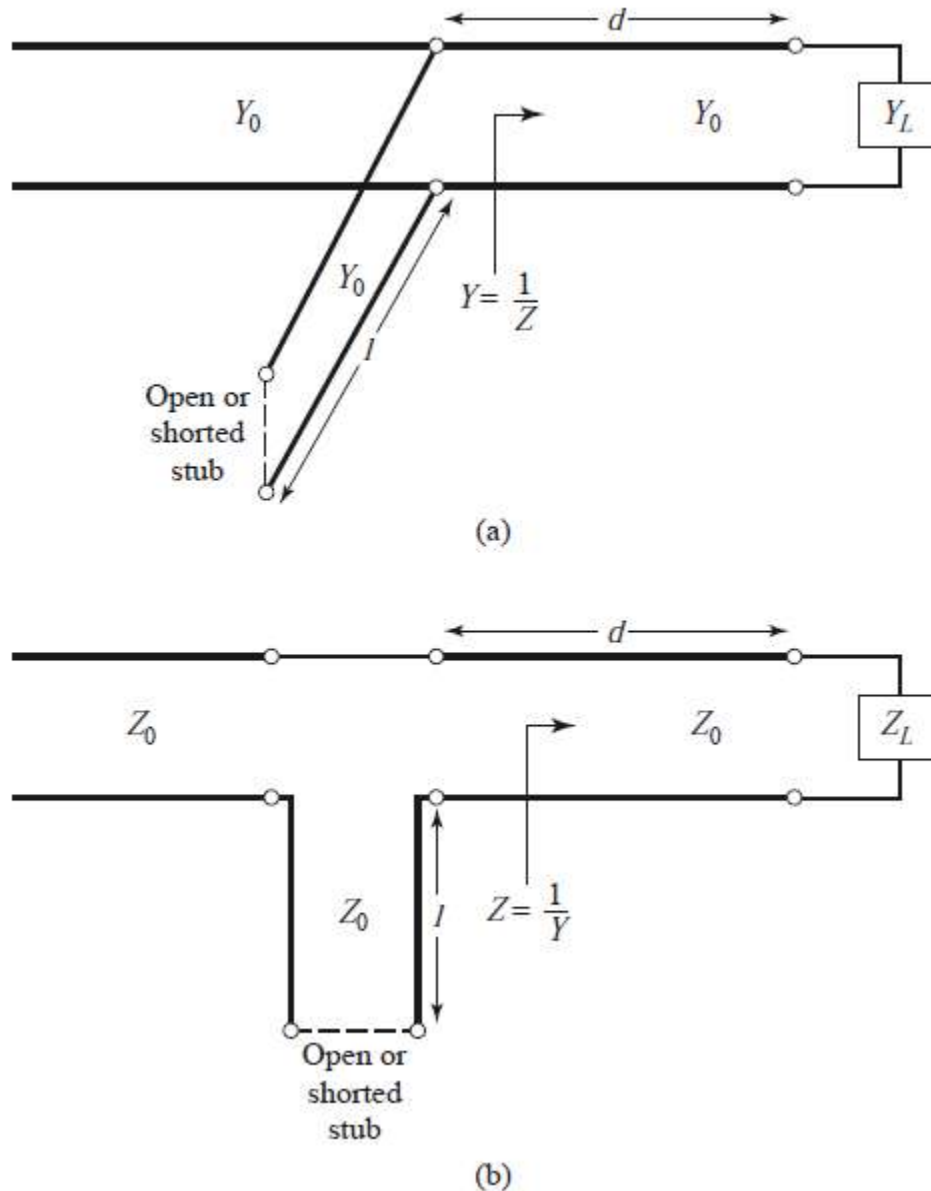

Figure 3
- Another popular matching technique uses a single open-circuited or short-circuited length of transmission line (a stub) connected either in parallel or in series with the transmission feed line at a certain distance from the load, as shown in Figure 3.